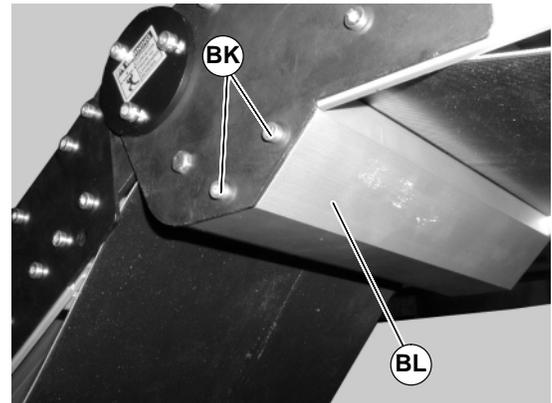

Figure 76
- Remove screws (BK of Figure 76) on both sides of knuckle and remove guard (BL).